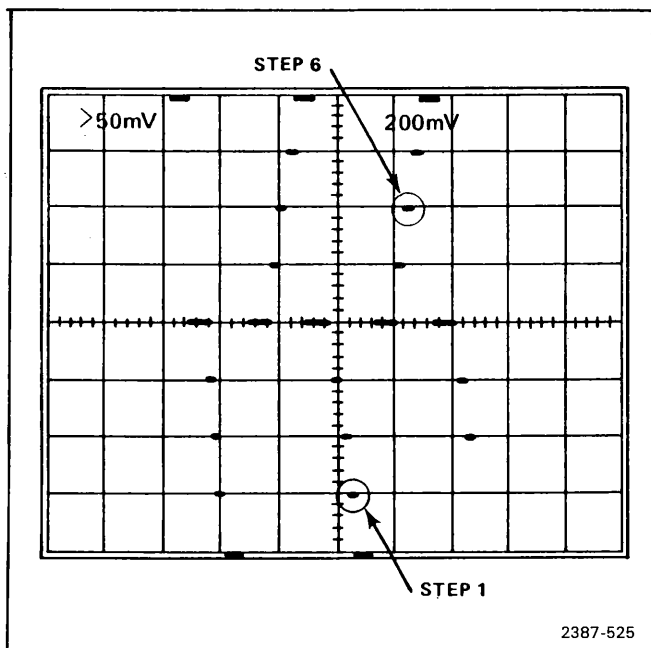

Fig. 5-24. Display of staircase waveform with Gain reduced just enough to cause the top and bottom steps to separate.
- ADJUST**—Gain (R636) clockwise while repeatedly pressing the ARM B button to reduce the gain so that the top and bottom staircase steps separate and part of each moves toward the center of the display. See Figure 5-24. (In Fig. 5-24 the top part of the waveform moved down three LSBs and the bottom part moved up two LSBs.)